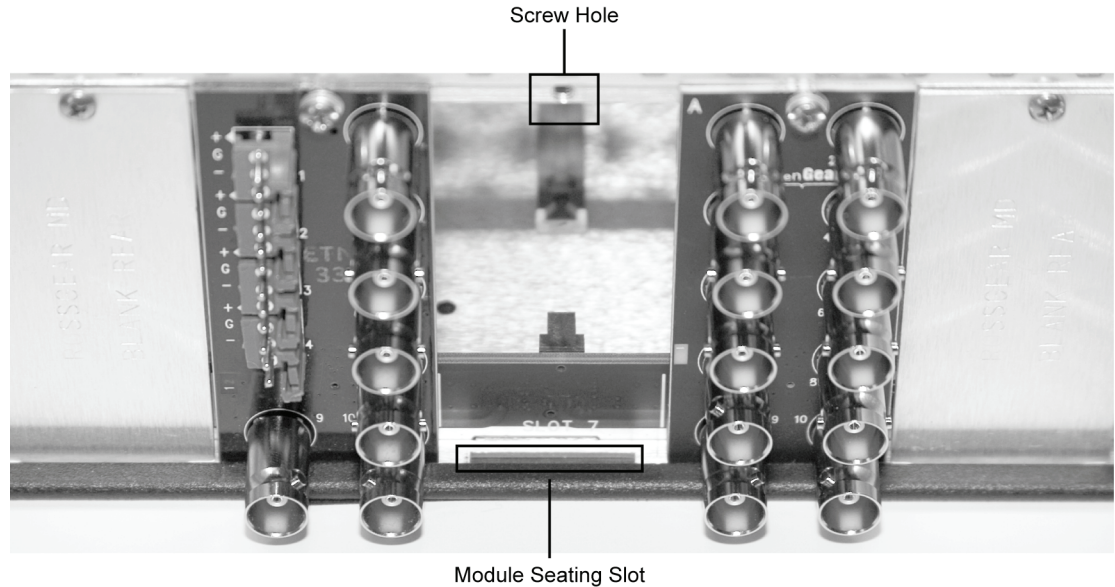

Figure 4. Rear Module Installation (UDC-8225 not shown)
4. As shown in **Figure 4**, seat the bottom of the rear module in the seating slot at the base of the back plane of the frame.